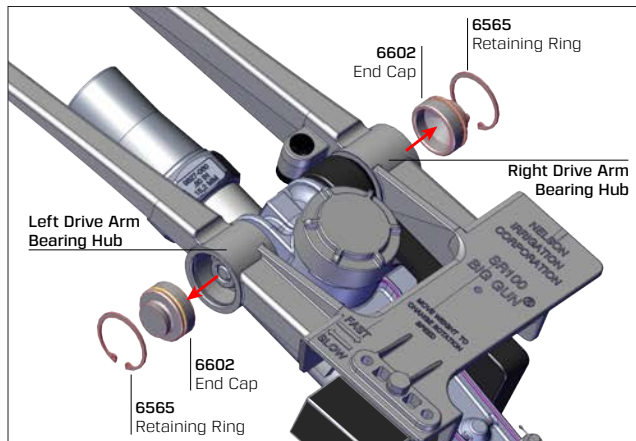

Fig. 1.
- A. Remove one #**6565** retaining ring from each drive arm bearing hub (left/right) using retaining ring pliers (see Fig. 1).